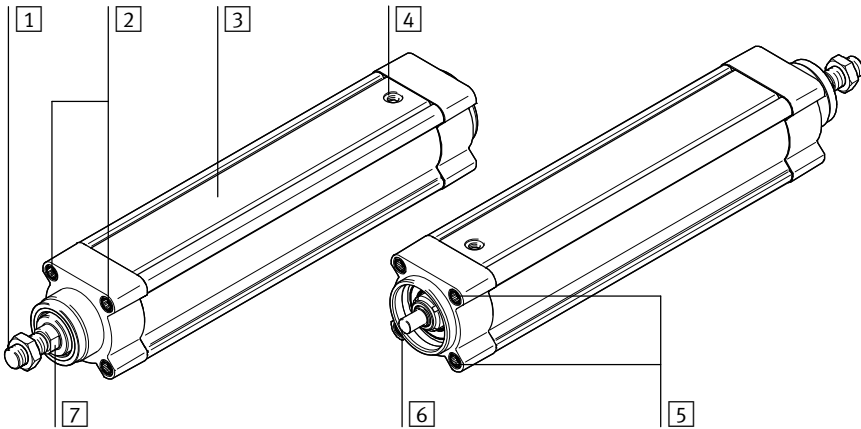

Fig. 1
- Pressure compensating opening [4] (→ Fig. 1) is not covered.